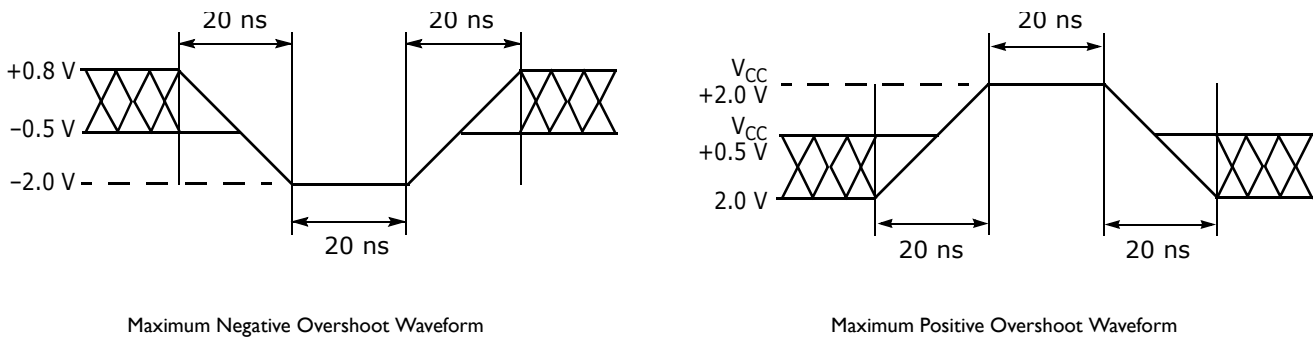

Figure 8. Maximum Overshoot Waveforms
1. Minimum DC voltage on input or I/O pins is -0.5 V. During voltage transitions, input or I/O pins may overshoot  $V_{SS}$  to -2.0 V for periods of up to 20 ns. Maximum DC voltage on input or I/O pins is  $V_{CC} + 0.5$  V. During voltage transitions, input or I/O pins may overshoot to  $V_{CC} + 2.0$  V for periods up to 20 ns. See Figure 8.
2. Minimum DC input voltage on pins A9, OE#, RESET#, and WP#/ACC is -0.5 V. During voltage transitions, A9, OE#, WP#/ACC, and RESET# may overshoot  $V_{SS}$  to -2.0 V for periods of up to 20 ns. See Figure 8. Maximum DC input voltage on pin A9, OE#, and RESET# is +12.5 V which may overshoot to +14.0 V for periods up to 20 ns. Maximum DC input voltage on WP#/ACC is +9.5 V which may overshoot to +12.0 V for periods up to 20 ns.